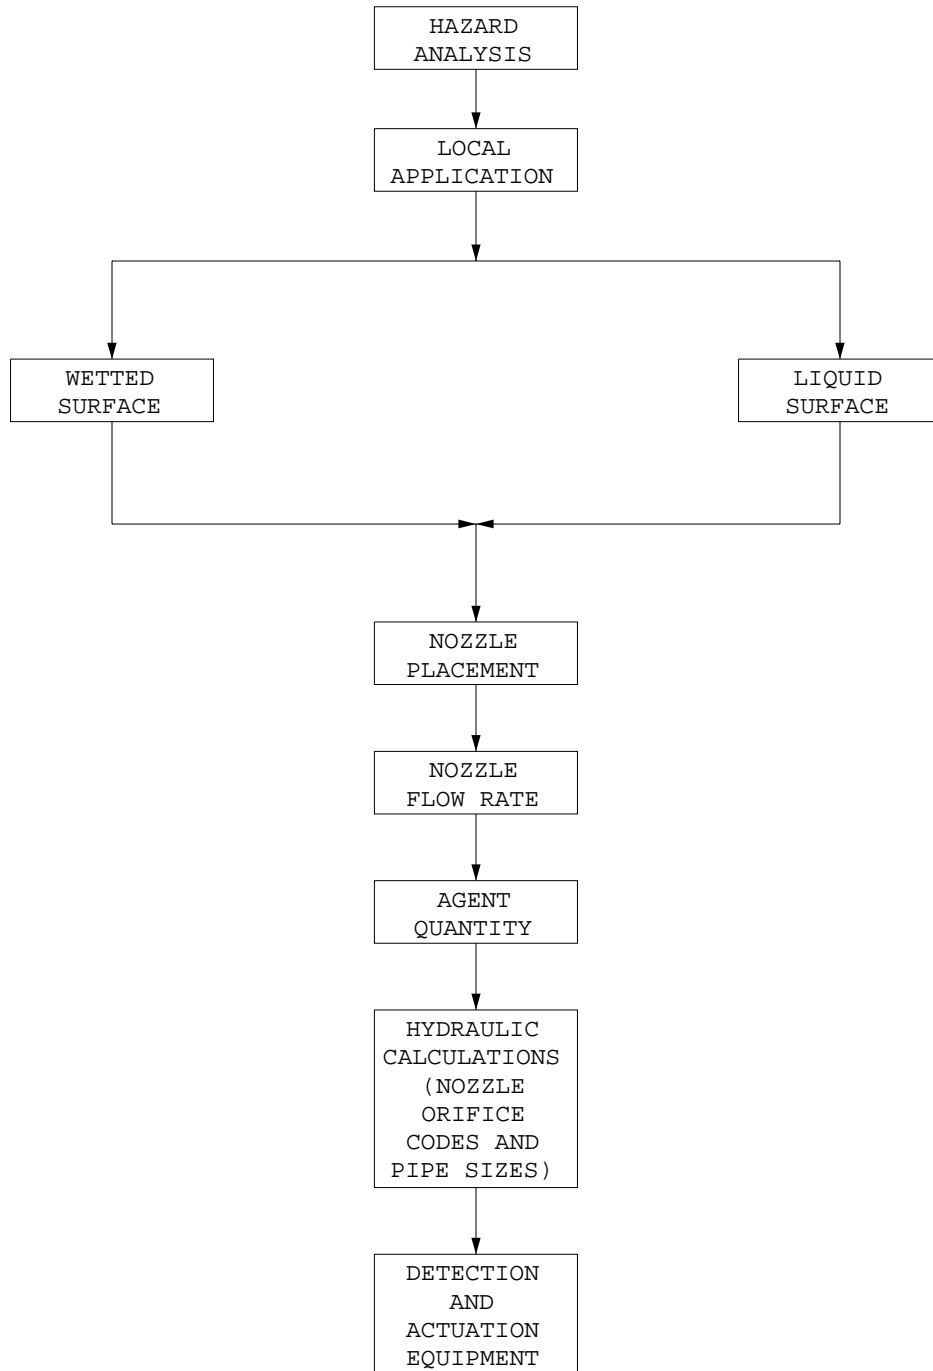

Figure 3-2
- B. Local application systems are used for the suppression of surface fires in flammable liquids, gases and shallow solids where the hazard is not enclosed or where the enclosure does not conform to the requirements for total flooding. Examples of hazards that may be protected by local application systems include dip tanks, quench tanks, spray booths, machining operations and printing presses. Figure 3-2 illustrates a local application design process.